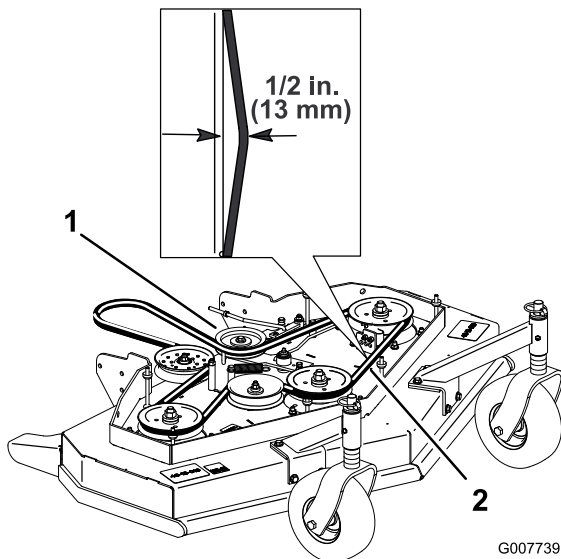

Figure 42
4. Remove the idler pulley and the worn belt (Figure 42).
Note: The proper mower belt tension is 10-15 lbf. (44-67 N) with the belt deflected 13 mm (1/2 inch) halfway between the pulleys (Figure 42).